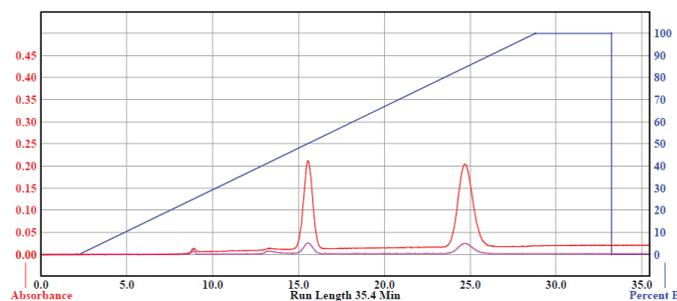

Figure 1: Universal Verification Chromatogram for silica gel
8. When the system finishes the run, review the resulting 254 nm chromatogram which should meet the following criteria (refer to Figure 1):